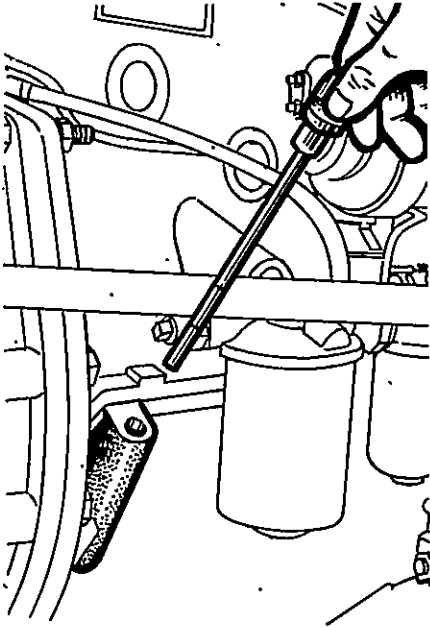
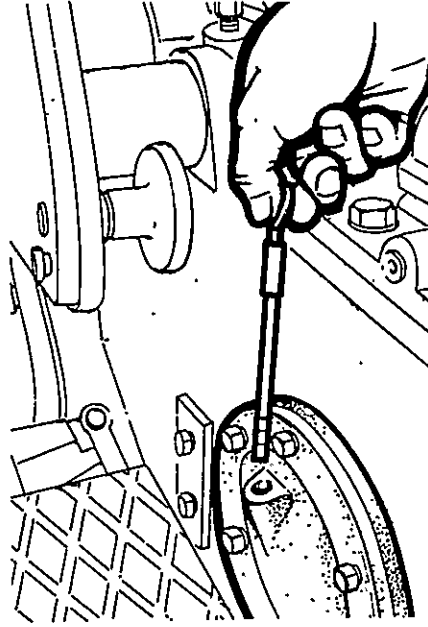
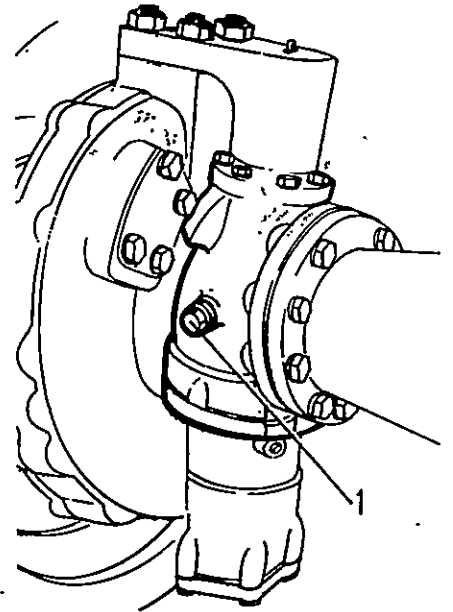

Fig. 3-2
Fig 3-3
Fig 3-4
- a. Check the oil level in the engine sump and transmission/rear axle housing is between the upper marking line and lower one on the dip sticks (see Fig. 3-2, Fig. 3-3). Check that the oil in the front axle housing is at such a level that it just overflows when you slacken off the oil-inspecting plug of the housing. (see Fig. 3-4) Check the radiator is full of water and the fuel tank with sufficient fuel.